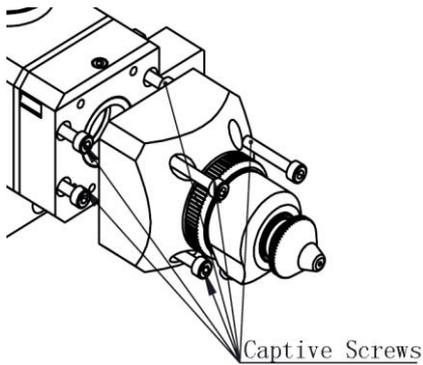

Figure13 ( 2D ) Remove Module WM and
- See Figure 13 , take out the locking screw from the bottom to the top.